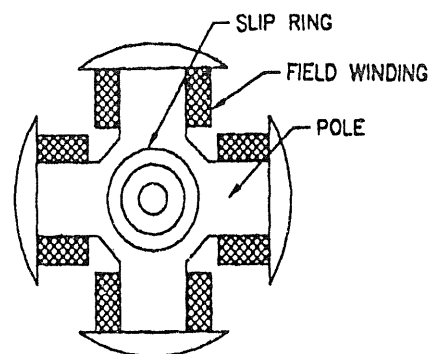

FIG. 4.48 : SALIENT POLE ROTOR
(1) Salient pole rotor :
- In Fig. 4.48 view of a 4 pole salient pole type rotor is shown.